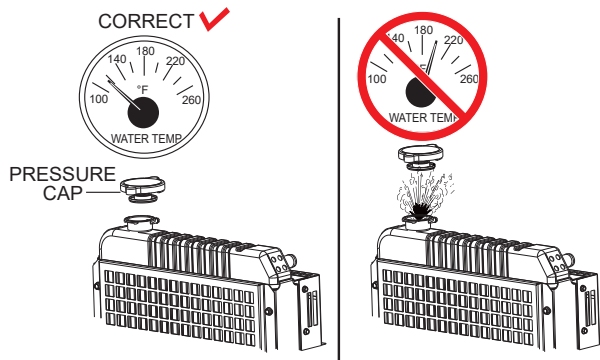

Figure 48. Radiator Pressure Cap Removal
1. Remove the **radiator pressure cap** (Figure 48) only when the coolant temperature is below 120°F (50°C).